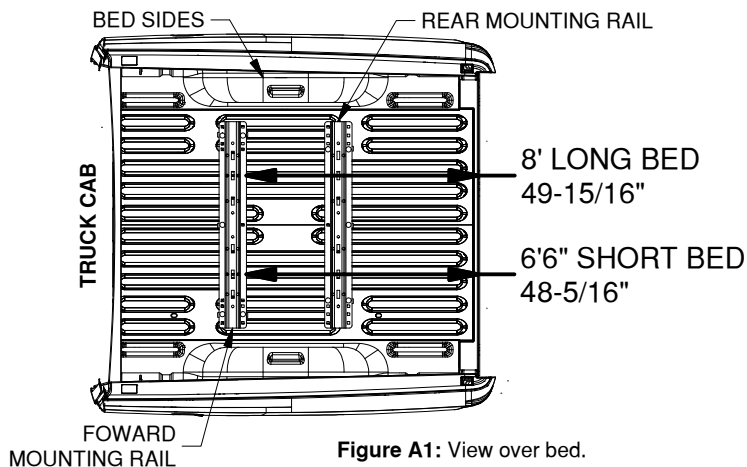

Figure A1: View over bed.
- Layout the forward mounting rail.** Place a mounting rail onto the bed of the truck. Hook a tape measure over the rear edge of the bed (not on any part of the tailgate), measure the location for the mounting rail as shown in Figure A1. Next, center the mounting rail in the bed by measuring the distance on either side from the edge of the rail to the sides of the bed. The rail will be centered when both measurements on either side of the rail are the same.